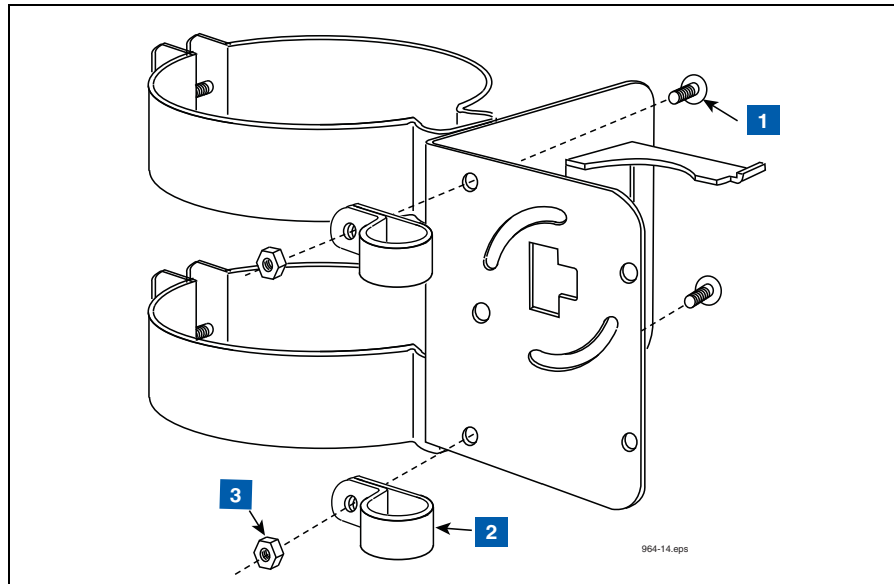

Figure 14. Attaching Conduit Clamps To Battery Pack Support Bracket
2. Attach two conduit clamps to the battery pack support bracket as shown in Figure 14. Do not tighten screws at this time.
LEGEND FOR NUMBERED BOXES IN Figure 14